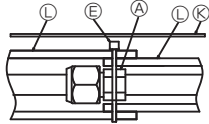

Fig. 3-8
- (2) Wrap the covers of the connection pipes, and secure them at band ⑤.
- (3) Attach insulation ⑧ so that it covers the cut parts of the connection pipes. (Fig. 3-8)
- (4) Loosen the nut on the L-shape piping side with two wrenches, and remove and disposal the piping ③.